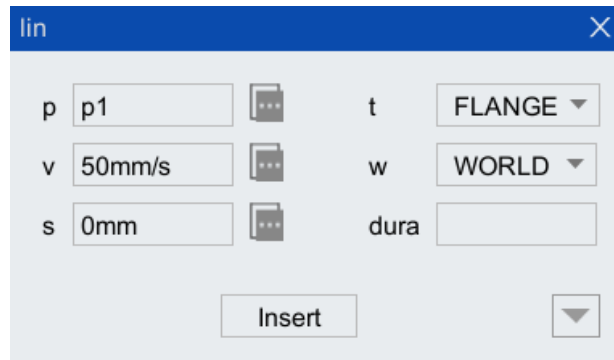

Figure 10-7 The lin instruction configuration interface
Step1. Open a new .arl program in the program editor, click [lin] to pop up the lin configuration interface (as shown in Figure 10-7), complete the parameter configuration, and click <Insert > to generate the arc welding starting point instruction.